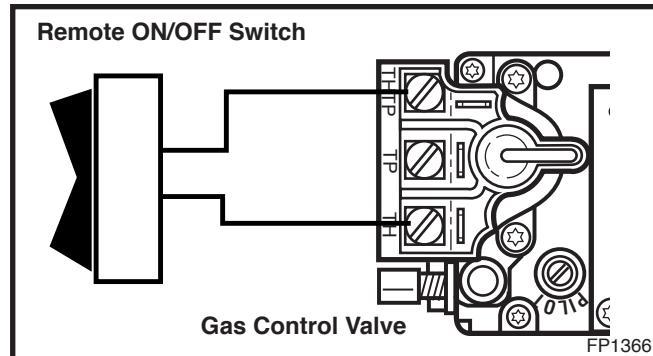

Fig. 10 Remote switch wiring diagram for R models.
3. Connect the other end of the wire to the gas control valve. (Fig. 10)